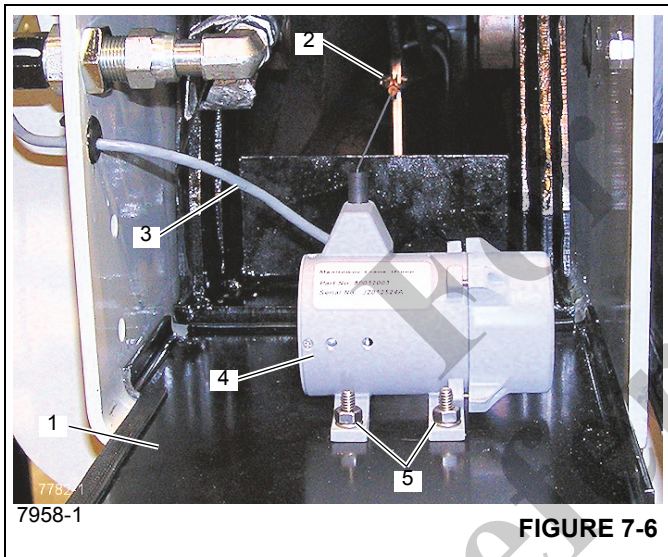

FIGURE 7-6
2. Remove outrigger box cover (1, Figure 7-6).
3. Disconnect spring clip (2, Figure 7-6) from its attaching point on outrigger beam.
4. Disconnect electrical connector (3, Figure 7-6) at string potentiometer (4).
5. Remove the screws (5, Figure 7-6) securing string potentiometer; remove string potentiometer.
2. Using screws (5, Figure 7-6), mount the string potentiometer (4) to the outrigger box cover (1).
3. Connect electrical connector (3, Figure 7-6) to string potentiometer (4).
4. Attach spring clip (2, Figure 7-6) to attaching point on outrigger beam.
5. Mount outrigger box cover (1, Figure 7-6) on outrigger box.